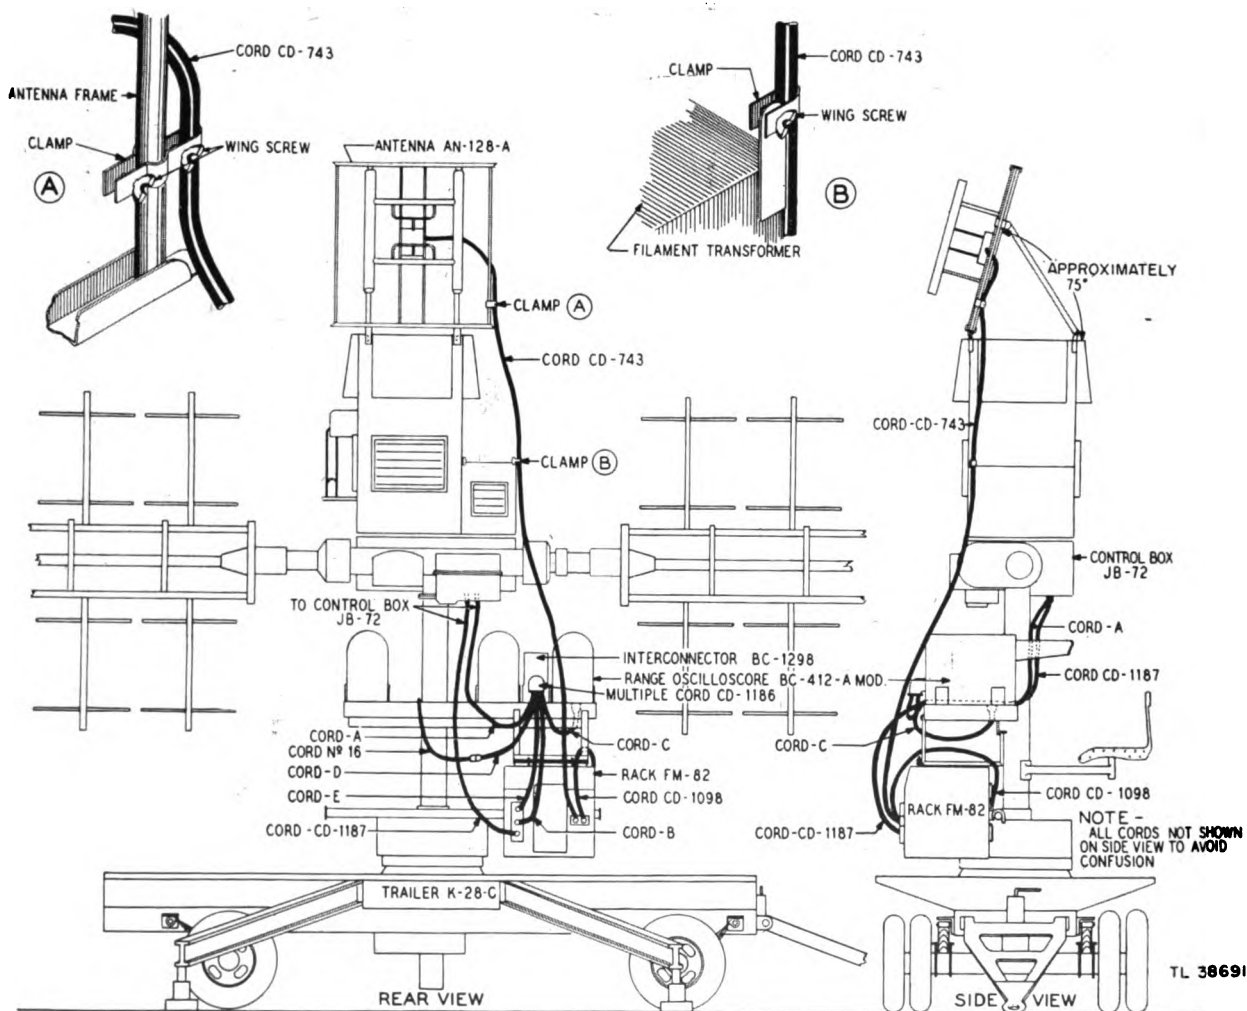

Figure 42. Arrangement of cables for Radio Equipment RC-148-C on Radio Set SCR-268-C.
**NOTE.** The design of the cable connectors is such that no connection can be made to the wrong receptacle. Do not force any connections. If trouble is encountered, check for the proper cable or cable terminal. Do not allow the cable to be bent sharply since the length of each cable is ample when connected to the proper receptacles. Figure 42 shows the cable connections to the SCR-268-C and RC-148-C.
(1) Connect cord CD-743 between the antenna junction box and the large receptacle marked 7 at the right of the rack wiring cover, figure 9. Clamp the cable to the antenna and filament transformer housing by means of the clamps provided for that purpose (fig. 42). Details of this cable assembly are shown in figure 41.